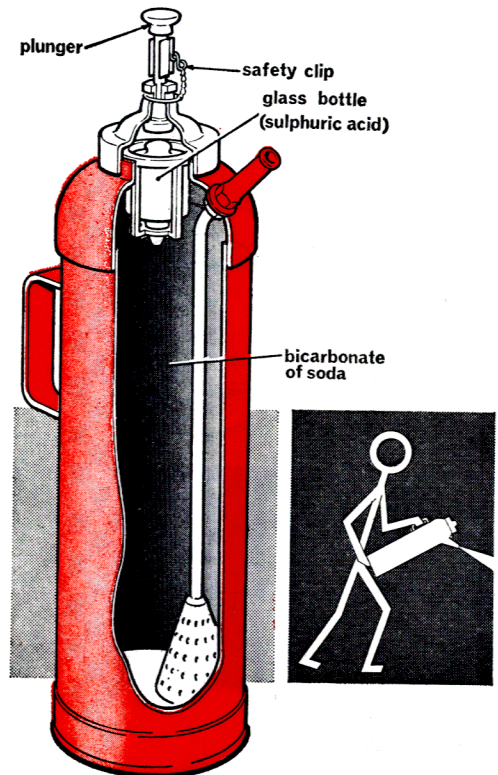

Fig. 1. Soda acid extinguisher
9. **Soda acid.** This extinguisher is a handy method of storing water for immediate use under pressure (Fig 1). It is used to cool a burning mass to a point below its ignition temperature. It must not be used on liquid fires or those involving electricity. Its use is confined to solid material fires such as wood, paper, or clothing. The extinguisher consists of a steel cylinder, painted red, and fitted with a brass head cap which holds the operating plunger. Underneath the cap is a cage containing a sealed glass bottle of sulphuric acid, mounted immediately below the operating plunger. The cylinder contains an alkaline charge of bicarbonate of soda dissolved in water.